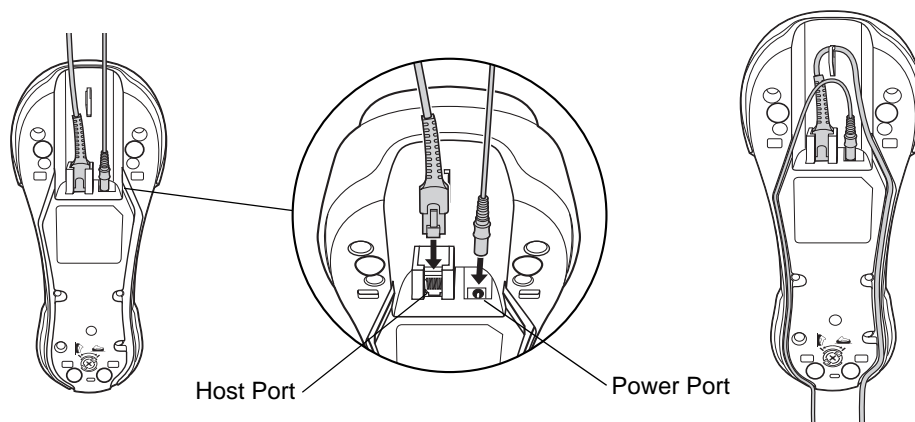

Figure 1-4 Connecting the Cables to the Cradle
1. Insert the interface cable into the cradle's host port. See Figure 1-4.
1. Insert the interface cable from the host computer into the cradle's host port. See Figure 1-4.